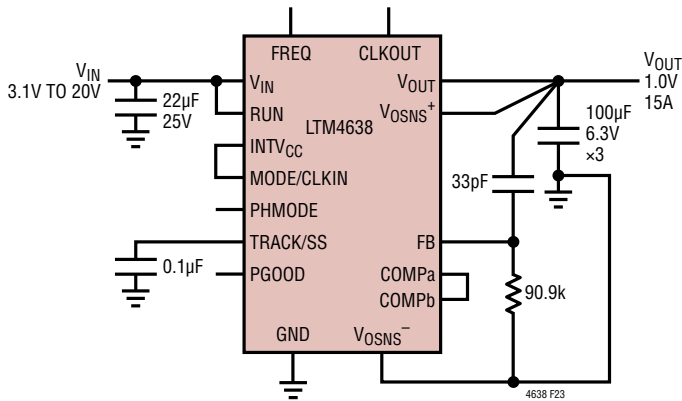

Figure 23. 3.1VIN to 20VIN, 1V Output at 15A Design
**Table 7. Output Voltage Response vs Component Matrix (Refer to Figure 23)**